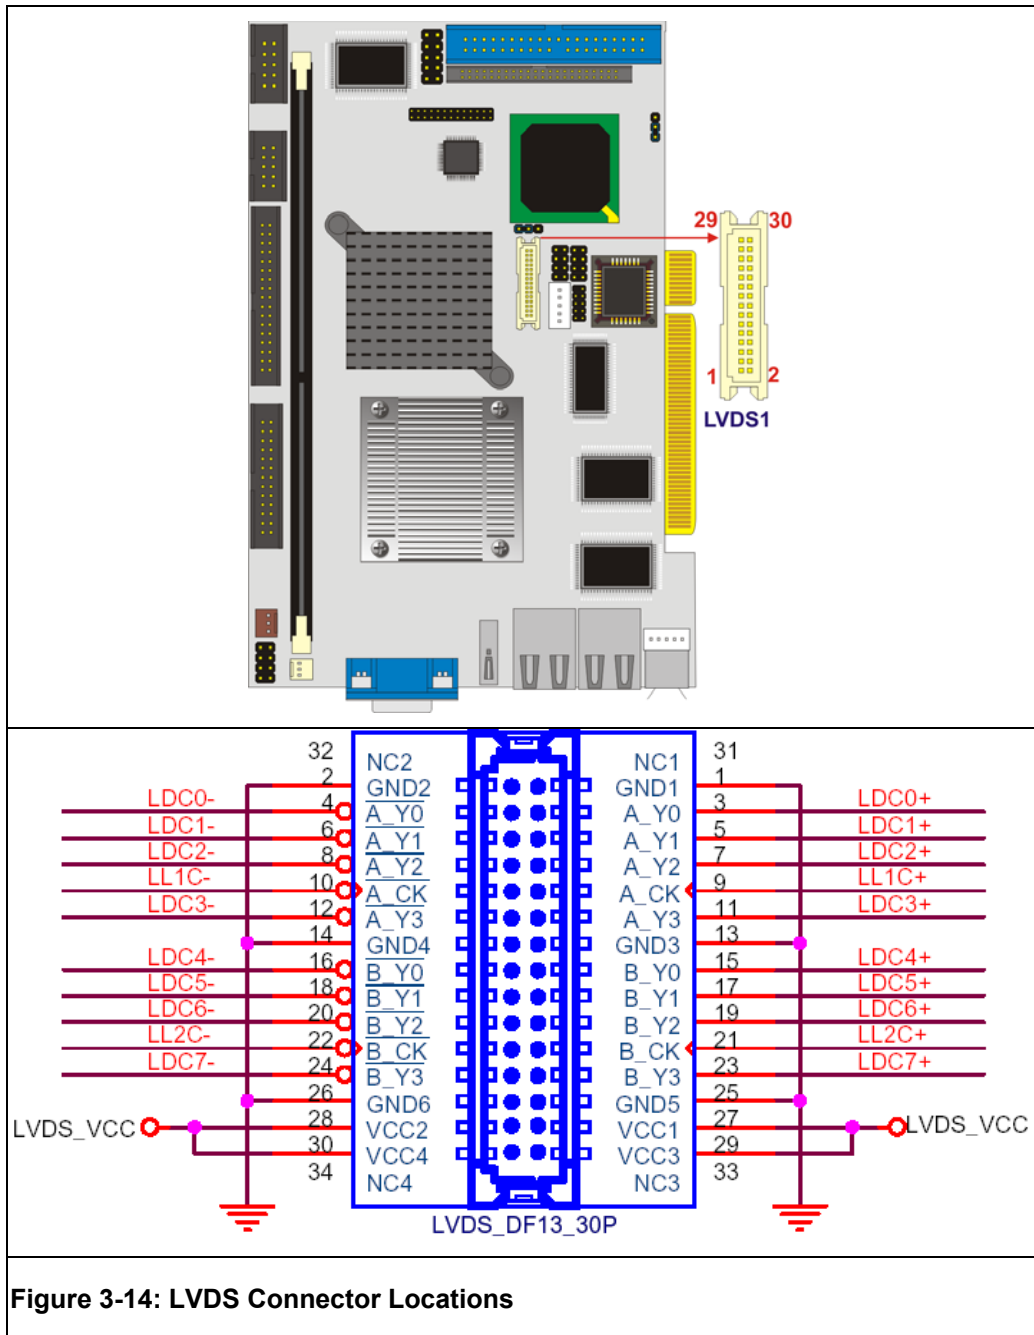

Figure 3-14: LVDS Connector Locations
- CN Location:** See Figure 3-14
- CN Pinouts:** See Figure 3-14